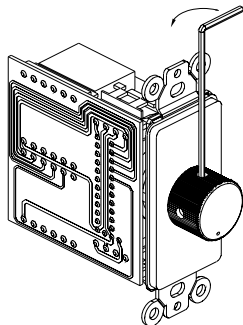

Figure 1
2. Holding the VCS-2D control as shown in **(Figure 1)**, make sure that the knob is turned completely counter-clockwise, to the off position. Note the current position of the knob; this will ensure that you install the new knob in the same position as the old one. Next, using a 5/64" allen wrench/driver, locate the two set screws on the side of the knob and carefully loosen both screws until the knob may be removed. It is not necessary to completely remove the screws from the knob.
5. Locate the new knob. Place the new knob onto the shaft and align it to the same position as the old one. Secure the knob to the shaft by tightening the two set screws on the side of the knob. Holding the VCS-2D as shown in **(Figure 1)**, check the alignment of the knob by turning it through all positions.